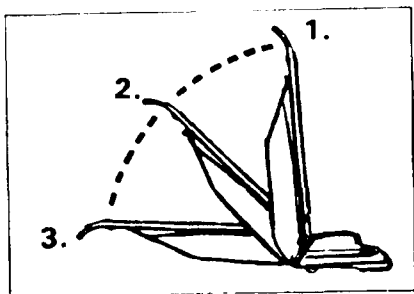

Fig. 1
With the tip of your toe, release the handle lock located at the rear left side of the cleaner and move the handle to the desired position: (1) Upright when not in use; (2) Normal for sweeping; (3) Low when cleaning under low furniture (Fig. 1).